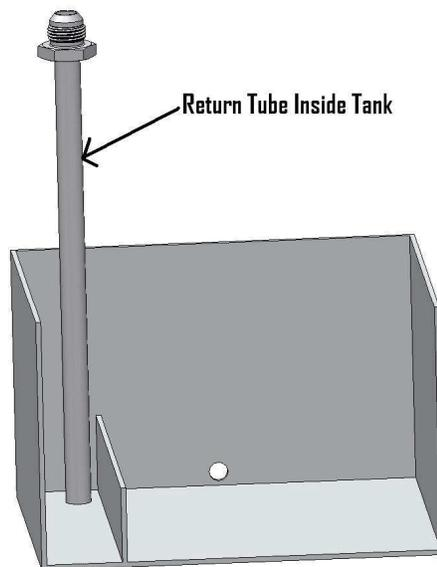

FIGURE 1-3
- Drill two .375" holes near the bottom of the baffling running from the front to rear of the vehicle. Also construct an 8" x 1.6" x 1.6" wall along the bottom of the baffle box for the return to feed into. This will keep the fuel calm at the pickup point and reduce the chance of cavitation. **Figure 1-3**